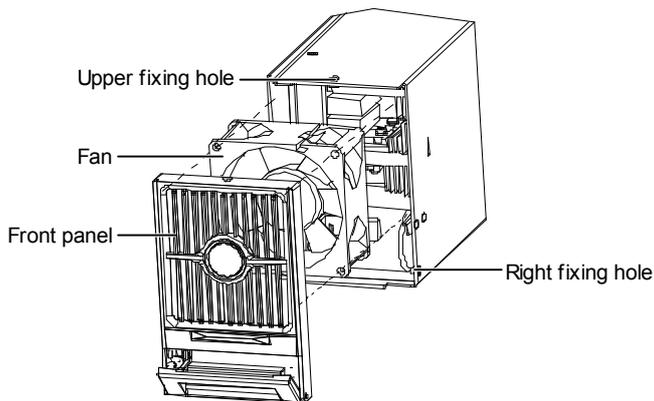

Figure 5-2 Replacing rectifier fan
1. Use a cross head screwdriver to remove the three fixing screws and pull out the front panel, as shown in Figure 5-2.